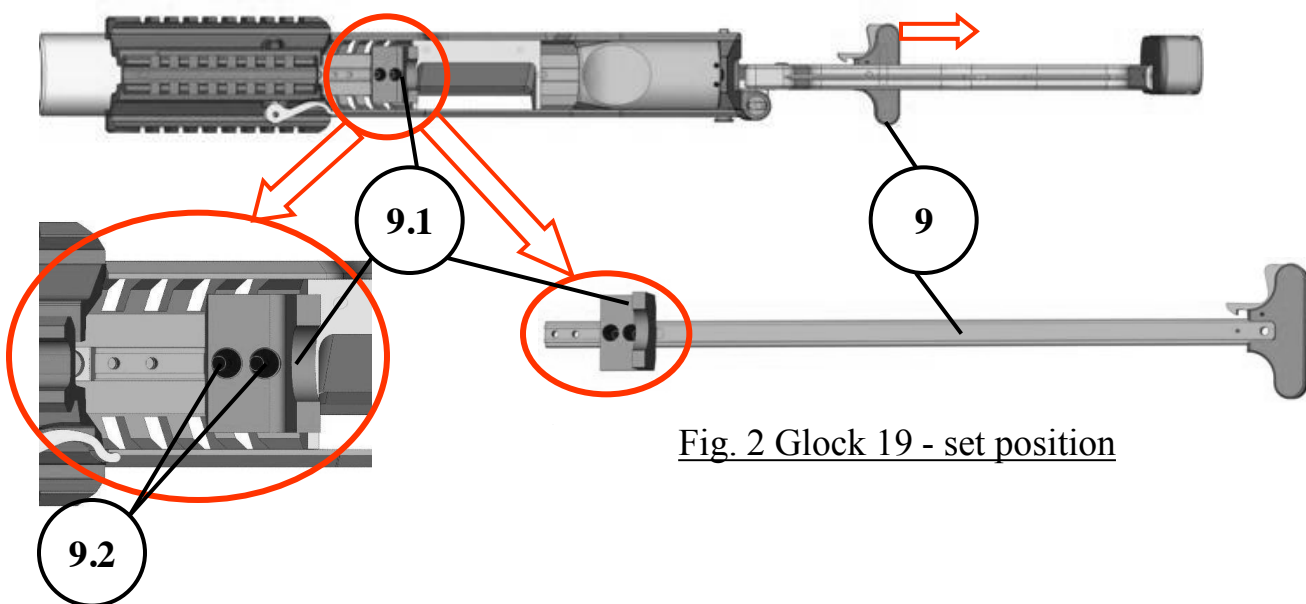

Fig. 2 Glock 19 - set position
1. Place the KPOS G2 upside down and pull back the Charging Handle (9) until the Slide Drawer (9.1) will be completely exposed within the KPOS G2 chassis.
2. Holding the Charging Handle (9), unscrew the Slide Drawer's Screws (9.2) and remove the Slide Drawer (Fig.2).